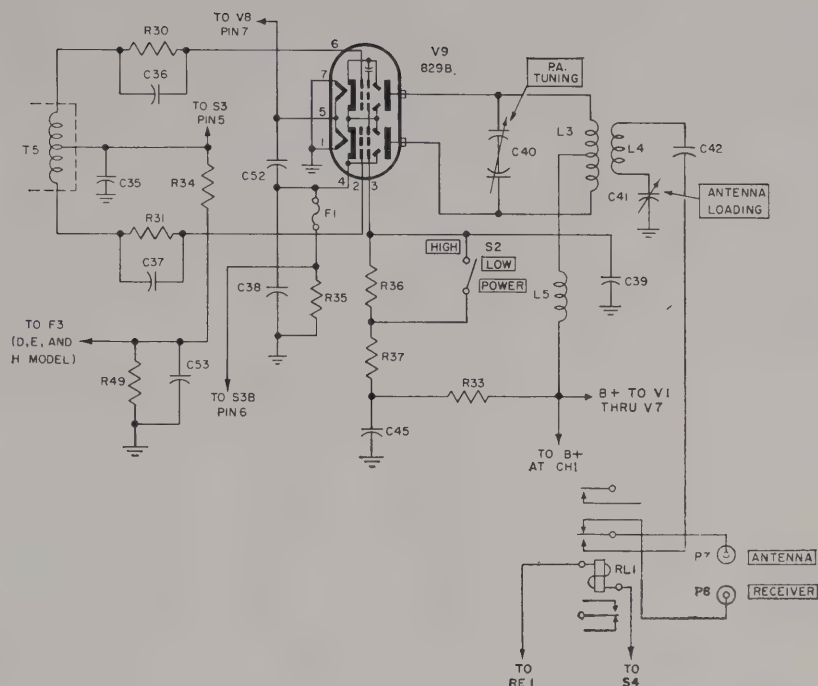

Figure 121. Power amplifier stage.
a. A functional diagram of the power amplifier circuit is given in figure 121. Tube V9 is a dual beam-power tetrode, operated as a push-pull class C amplifier. The push-pull r-f voltage developed in the untuned secondary of r-f transformer T5, is applied to the two control grids of tube V9 by grid coupling capacitors C36 and C37. The rectified grid current from each half of tube V9, flowing through grid-leak resistors R30 and R31, provides independent biasing for each section in order to balance any inequalities in driving voltages. In unlettered, A, B, and C models, meter shunt resistor R34 is connected to ground. In the D, E, and H models, fixed bias is supplied by resistor R49. Resistor R49 is bypassed by capacitor C53 and is located in the center-tap lead from power transformer T8 (fig. 127). All the plate and screen currents in these three models flow through R49; the resulting voltage drop gives a minimum bias to the V9 grids. The value of the combined V9 grid currents is measured by the panel meter when the METER SWITCH is in position 5 (fig. 126). Resistor R34 acts as a meter shunt and capacitor C35 acts as a meter